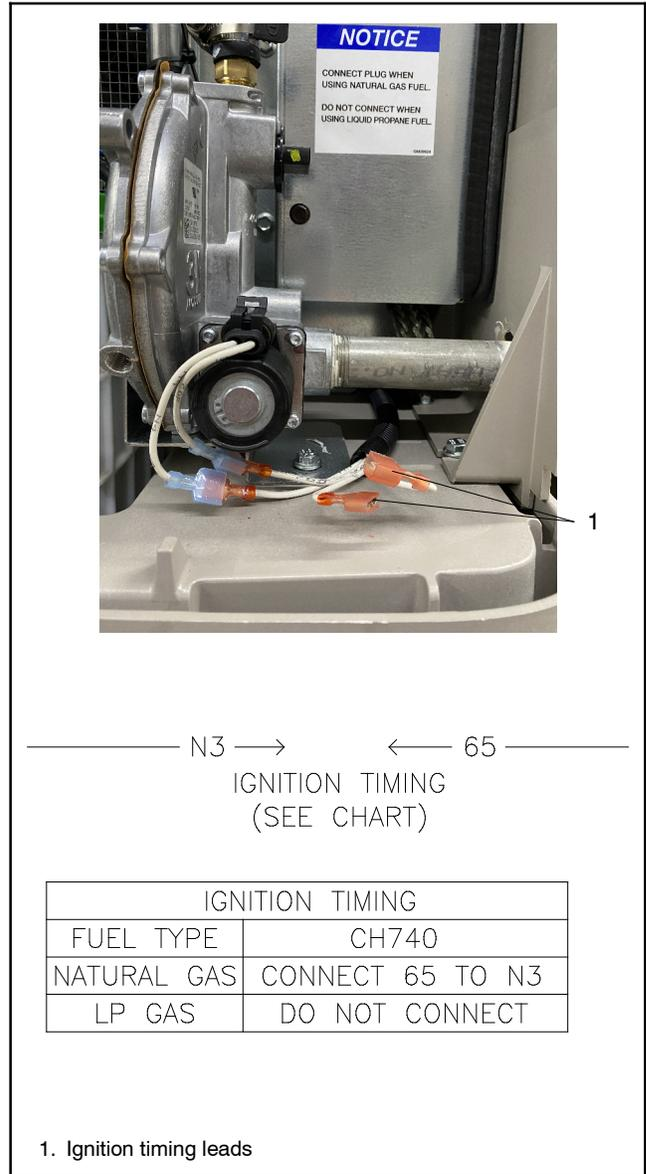

Figure 1-19 Ignition Timing Leads (14 kW models only)
6. On 14 kW models, find the ignition timing leads 65 and N, located near the regulator. See Figure 1-19.
- a. For natural gas (NG), connect lead 65 to lead N3.